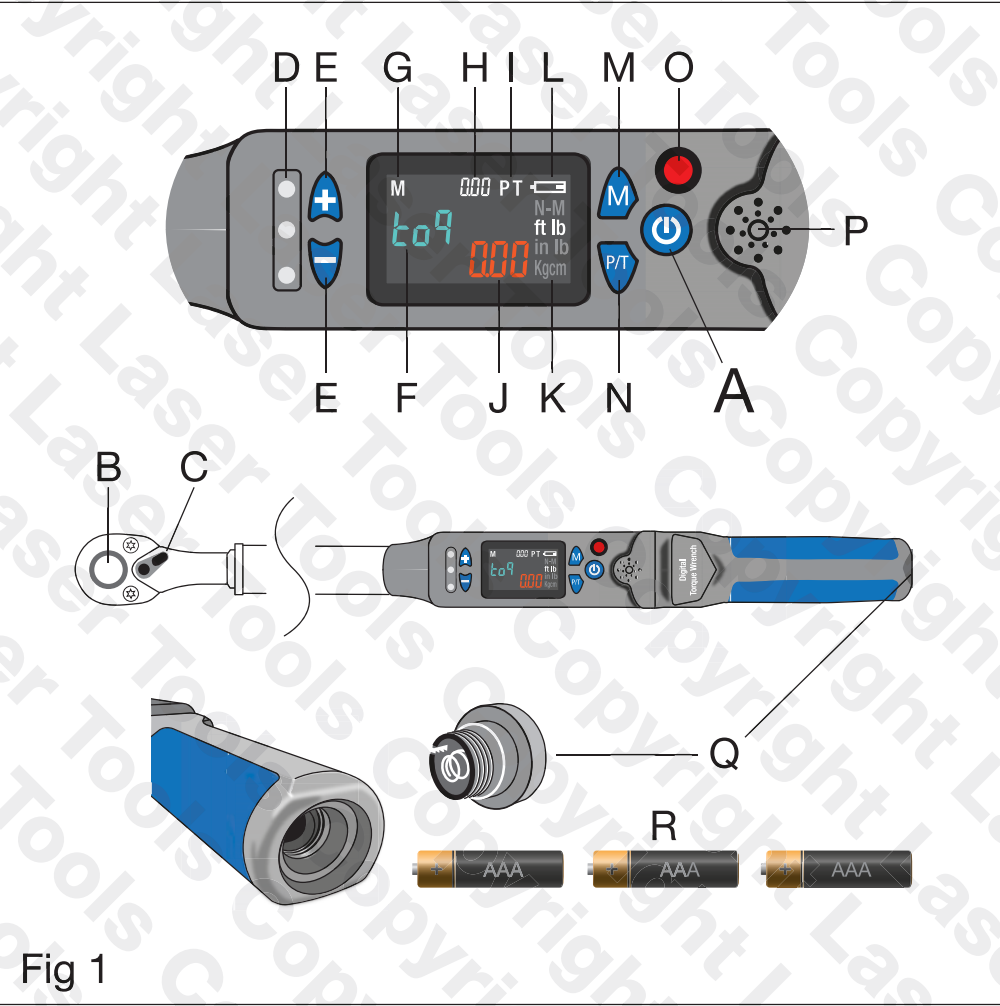

Fig 1
Refer to Figure 1: The battery condition indicator (**L**) is displayed briefly on start-up. The indicator will appear again if the battery voltage is low. Replace the batteries immediately. To access the battery compartment, remove the cap (**Q**) by rotating anti-clockwise. The batteries (**R**) are fitted positive (+) end first. Screw the cover firmly back into place.
Refer to **Figure 1:** Press and release the ON / OFF button (**A**). Wait for approximately two (2) seconds for the display to register 0.0 on the torque / angle display (**J**).
1. Refer to **Figure 1:** Press Memory Pre-Set (**M**) and Peak/Trace (**N**) buttons together.